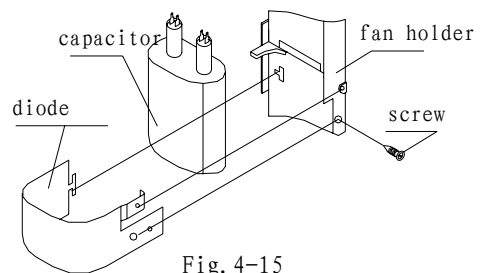

Fig. 4-15
2. Insert one end of the clip in the fan holder trough (FIG.4-15).